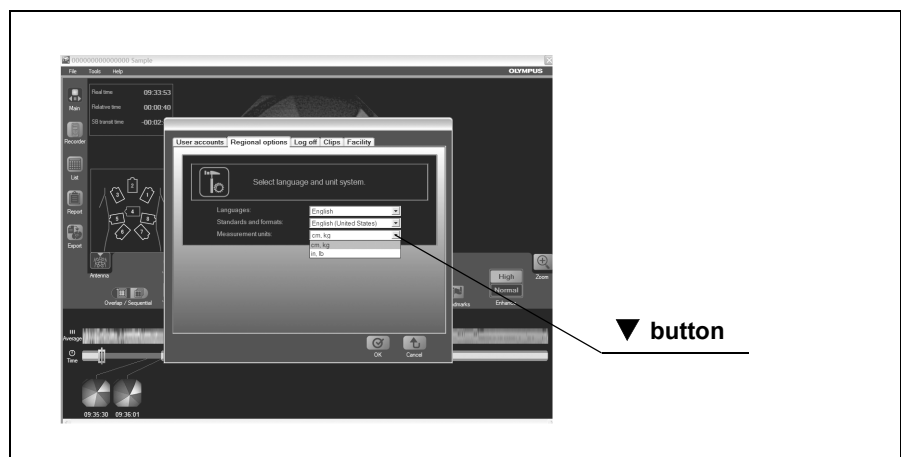

Figure 4.27
5. Click the “▼” to the right of “Measurement units” to select the measurement units (see Figure 4.27). The available units are listed in Table 4.5.